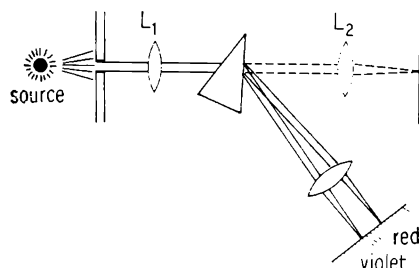

Fig. 457
3. (a) To obtain a pure spectrum, that is, one in which the colours do not overlap, it is necessary to use a system of lenses to produce images of the slit. Lens L_1 (Fig. 457) brings the light